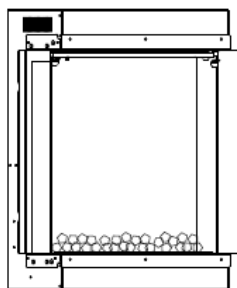

Fig.2
- Unpack the decor elements and place on the base of the fireplace as it is shown here (Fig. 2).